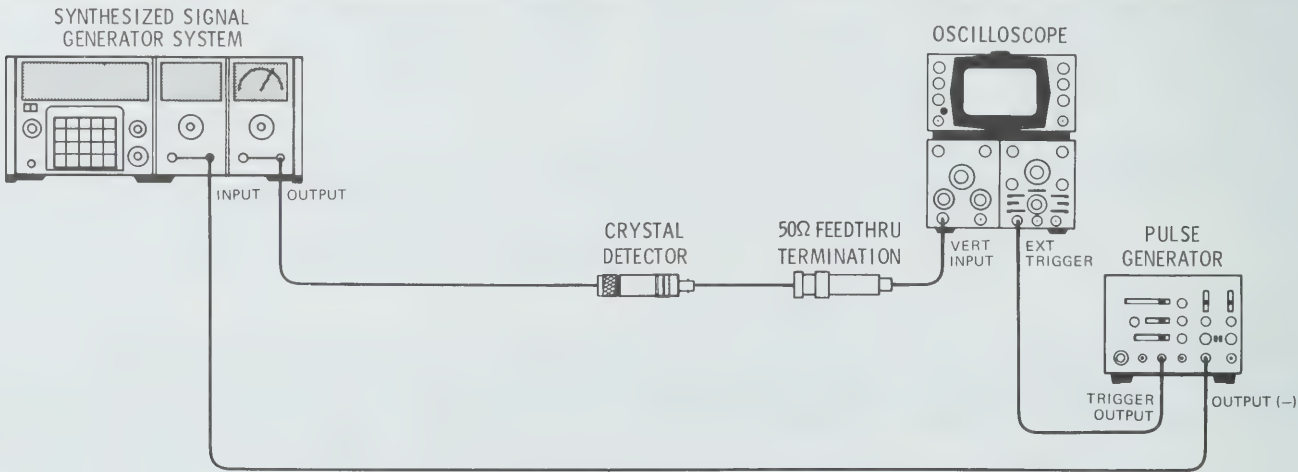

Figure 4-5. Pulse Modulation Risetime Test Setup
5. Connect equipment as illustrated in Figure 4-5.